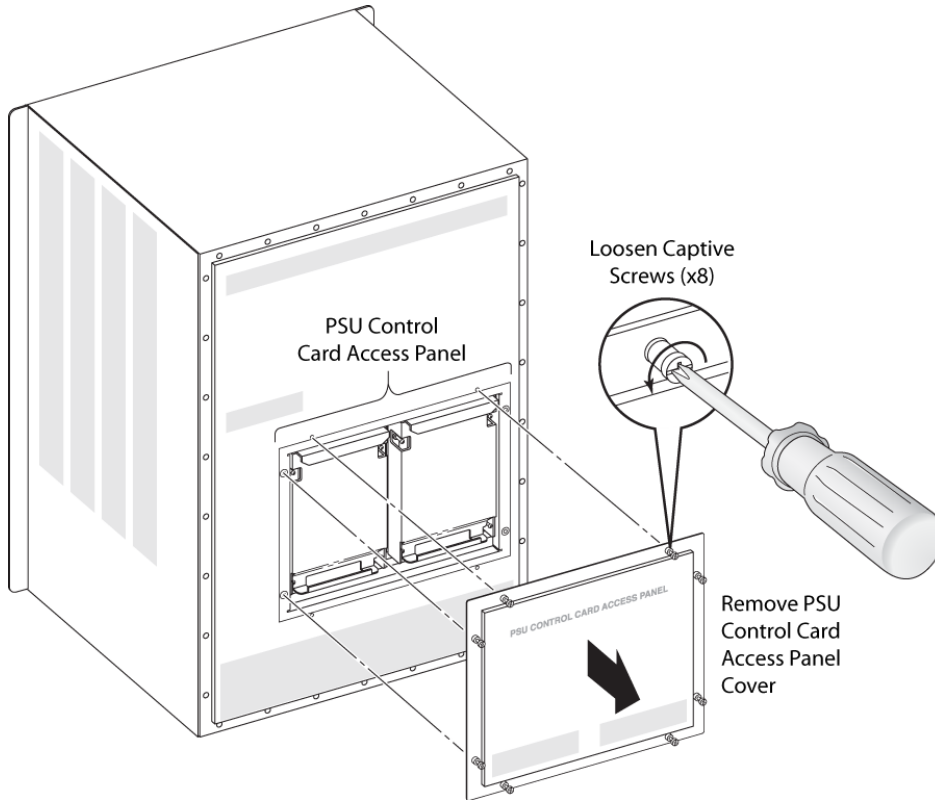
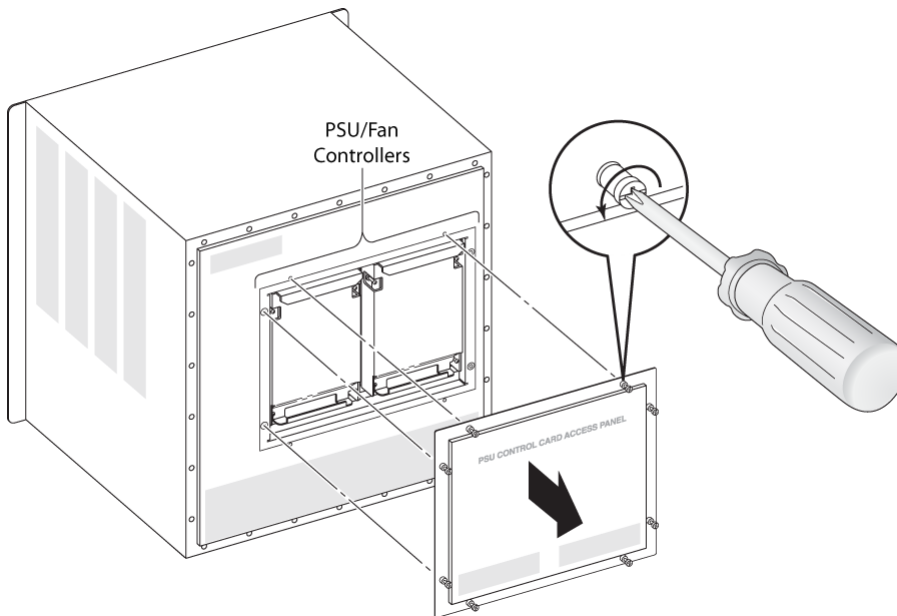

Figure 67. Removing the access cover from the XCM8810 Switch
Figure 68. Removing the access cover from the XCM8806 Switch
2. Locate the eight captive screws on the PSU/fan controller access cover at the back of the 8800 series switch (see Figure 67 and Figure 68).